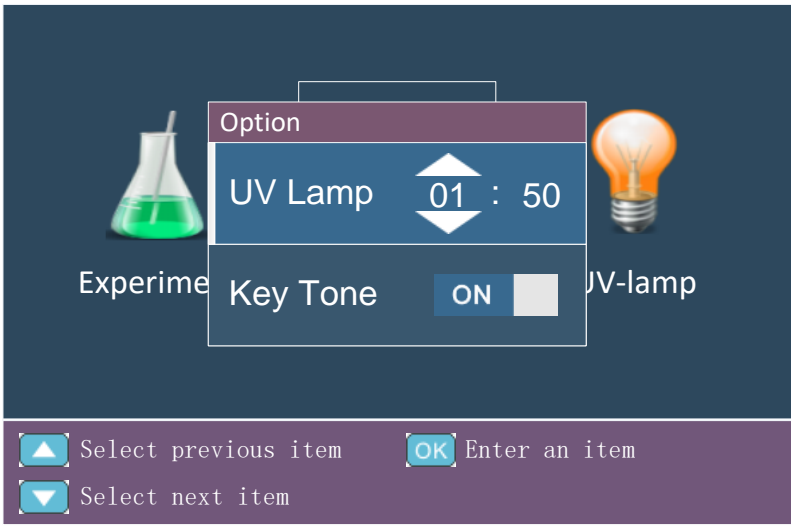

Figure 4-8 Instrument Setting Interface
User could press or to select the icon on the standby interface, and then press to enter the instrument setting interface, as shown in figure 4-8.
- ▶ Press  or  to select the <  **Option** > icon. Then press  to enter the instrument setting interface as shown in the figure 4-8.
- 1) Press  or  to select the <  **Option** > icon. Then press  to enter the instrument setting interface as shown in the figure 4-8.